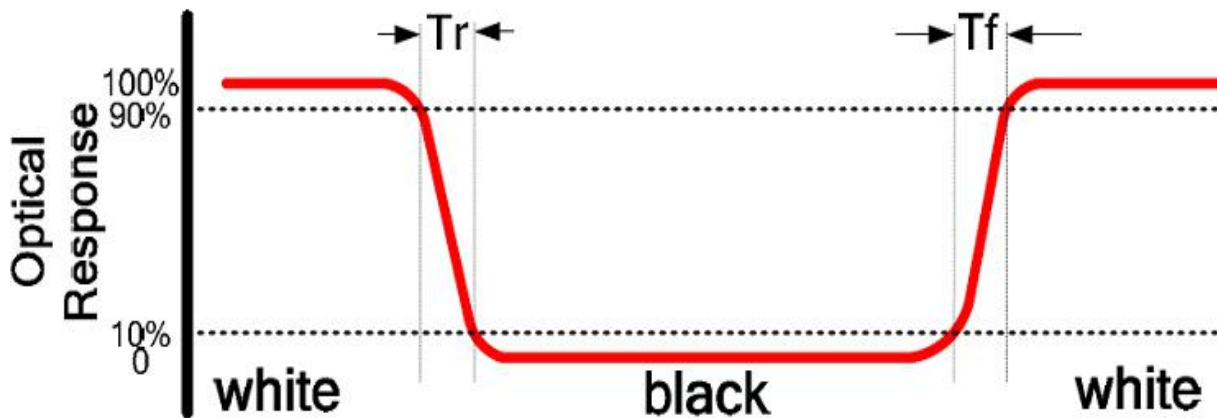

FIG2. Measuring method for Contrast ratio,surface luminance,Luminance
Note2.contrast Ratio(CR) is defined mathematically by the following formula ,For more information see FIG2.
axis with respect to the z axis which is normal to the LCD surface.For more information see FIG3 Note5. Surface luminance is the LCD surface luminance with all white pixels,For more information see FIG2.